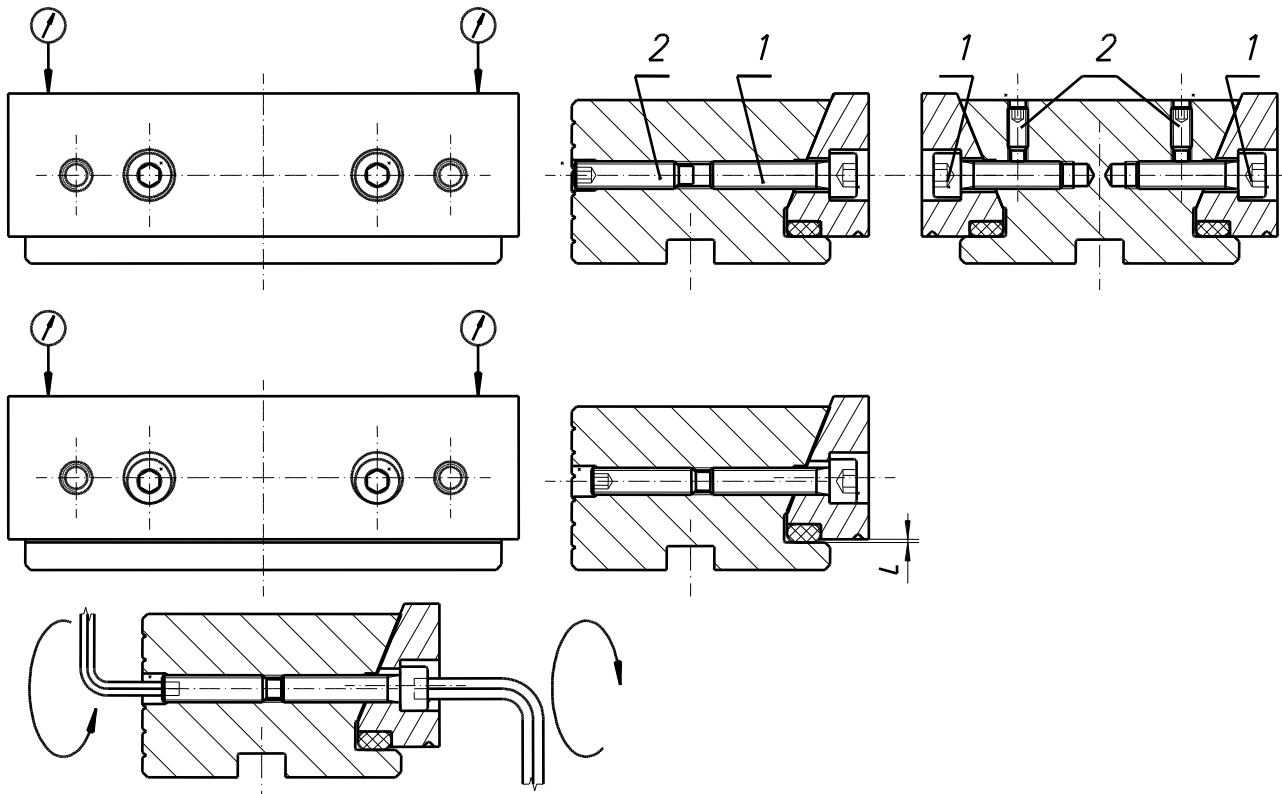

Fig. 10. Accuracy of positioning of clamping insert.
Clamping inserts are seated in vise jaws with play ensuring correct clamping the workpieces. The value of play should be $L = 0.2$ mm with accuracy of positioning ± 0.01 mm. The difference between “L” dimensions in movable and fixed jaw should not exceed 0.01 mm. Accuracy of positioning of clamping insert is shown in Fig. 10.
- **pay special attention to clean the gap between clamping inserts and jaws (L dimension on Fig. 10).**